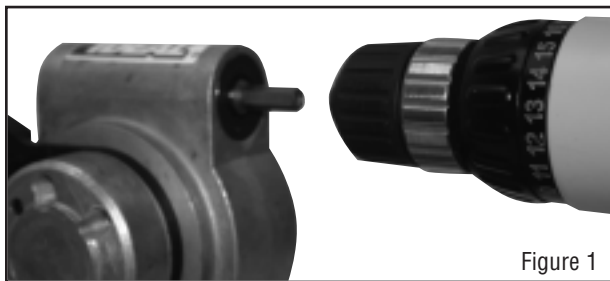

Figure 1
STEP 1: Attach cable cutter drive shaft to drill as shown (Figure 1). Tighten drill chuck securely.